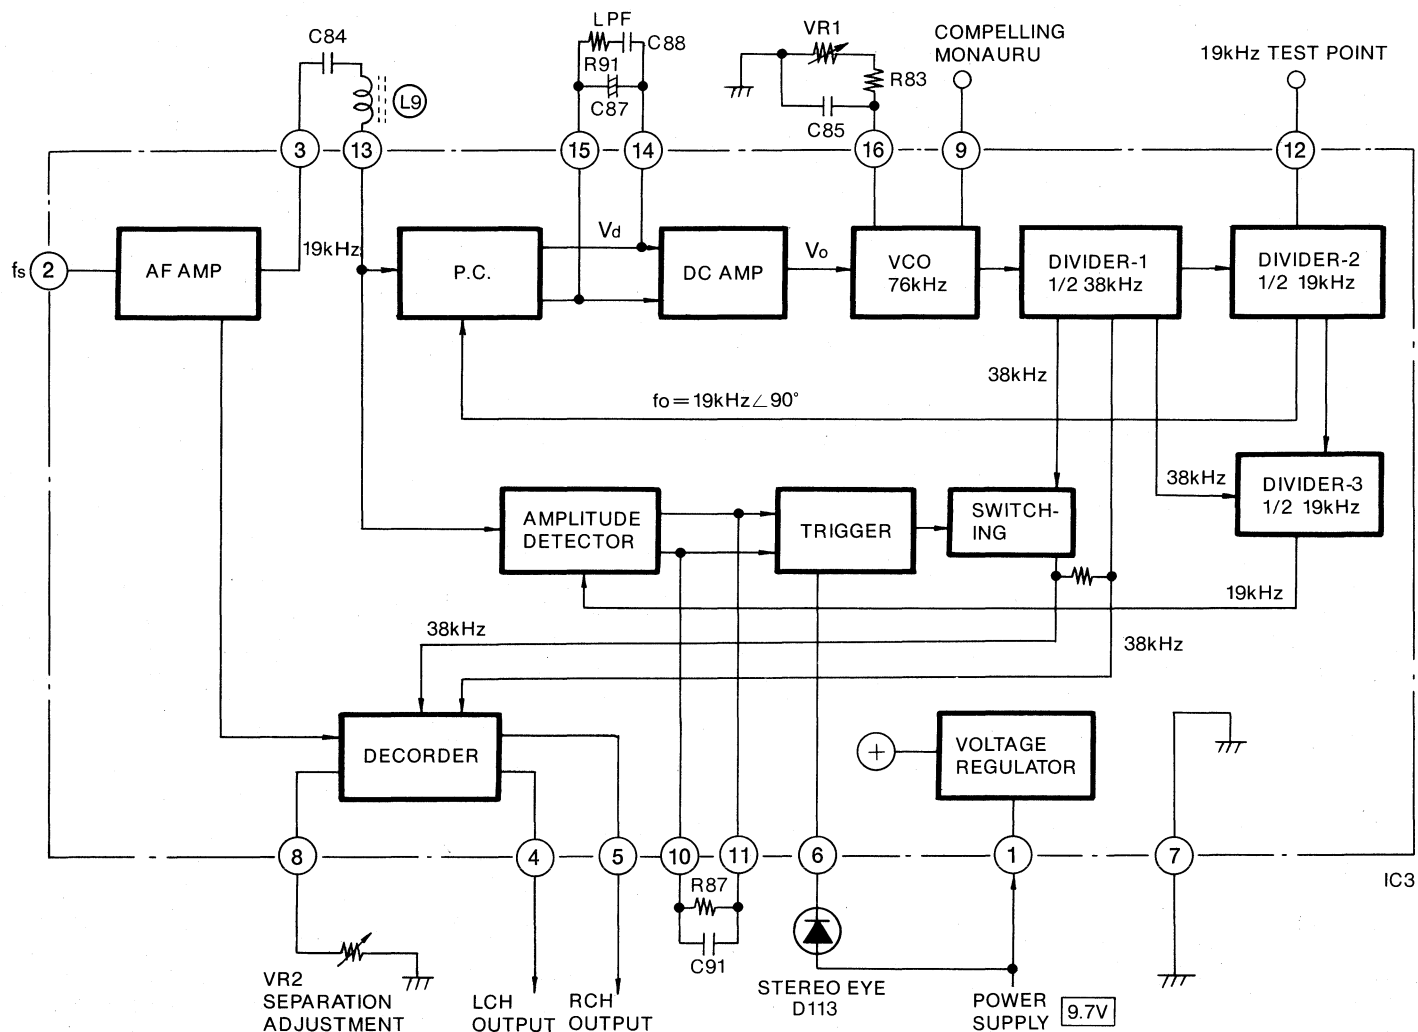

Fig. 15. Simplified block diagram (IC₃)-MPX Decoder.
C. Operation (Refer to fig. 15)